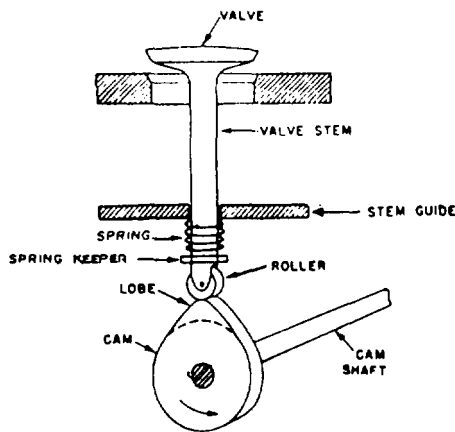

Figure 3E
3-55. The function of the spring in figure 3E is to
- 3-71. When the valve of figure 3E is not being lifted by the cam lobe, the cam roller is held in contact with the edge of the cam by the